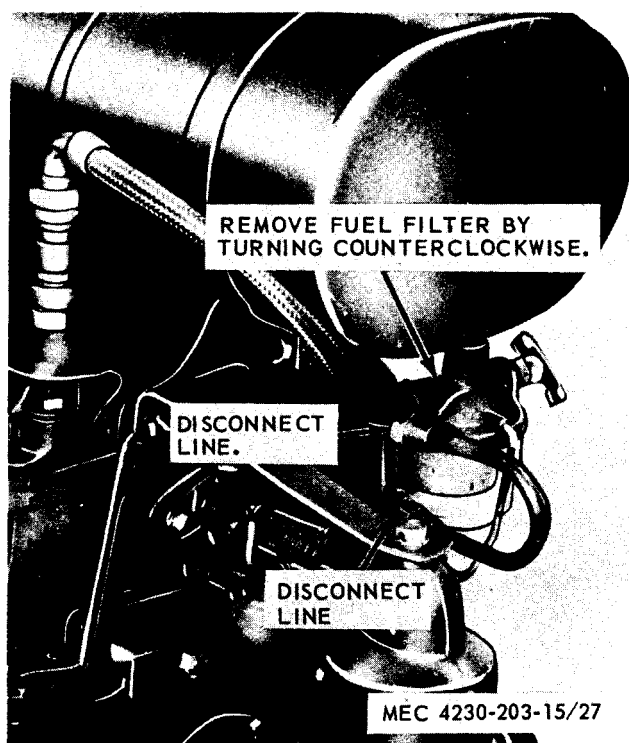

Figure 4-2. Fuel filter and line, removal and installation
- (1) Refer to figure 4-2 and remove the fuel filter